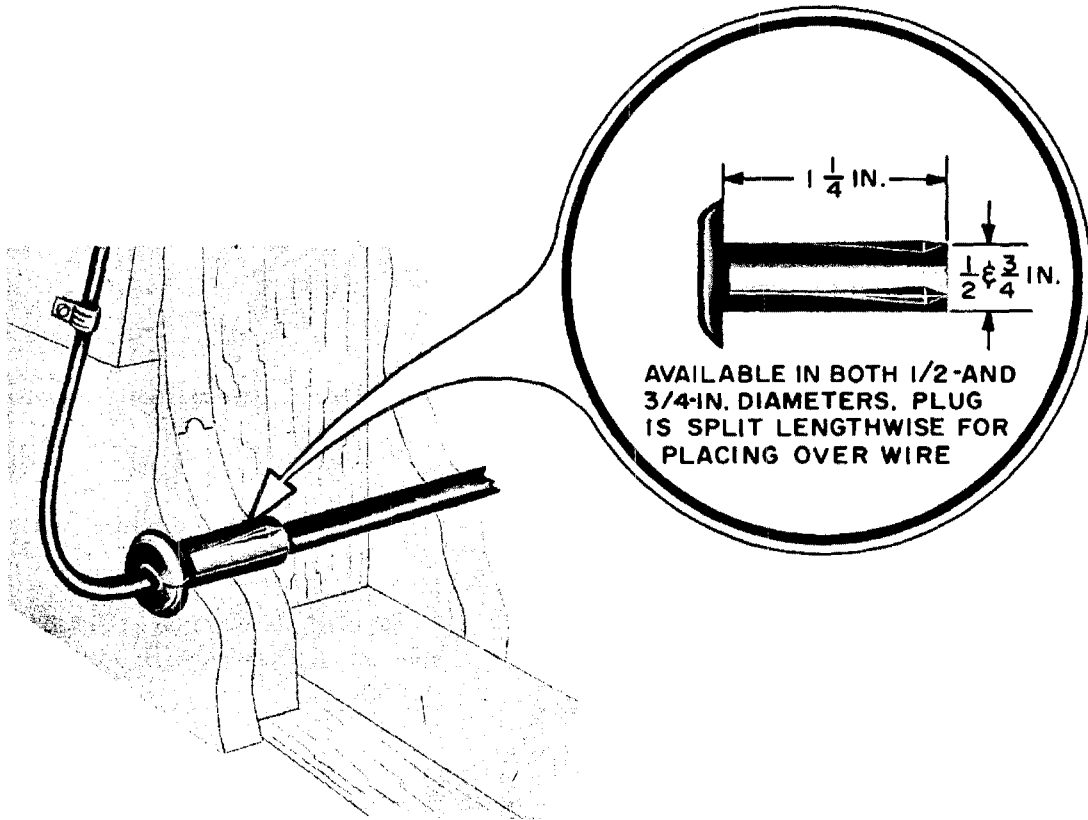

Fig. 19—B Entrance Plug
13.02 The B entrance plug (Fig. 19) is intended primarily for use with NP, C, or E drop wires and is furnished in $\frac{1}{2}$ - and $\frac{3}{4}$ -inch diameter sizes. This plug may be used: